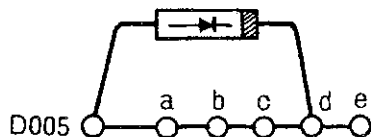

Fig. 4
- Install diodes as illustrated in **Fig. 4** and **5**. D009 through D025 are positioned as D007, 008.